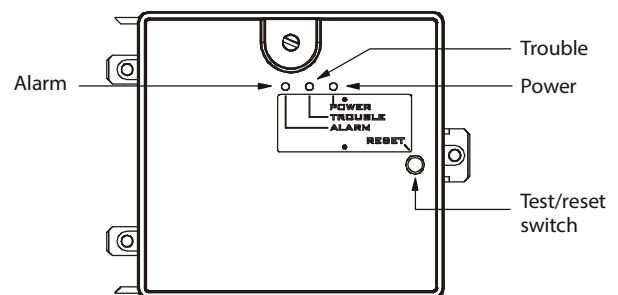

Fig. 42 – Controller Assembly
- The contacts on the controller's supervisory relay switch positions. (See Fig. 42.)